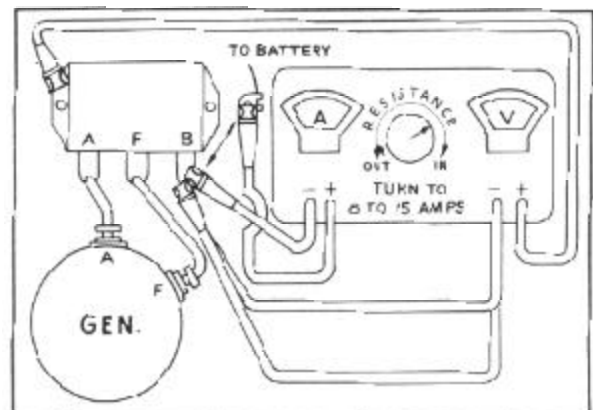

FIGURE 15
2. Connect the voltmeter positive lead to the regulator base and the negative lead to the regulator "B" terminal, Figure 15.